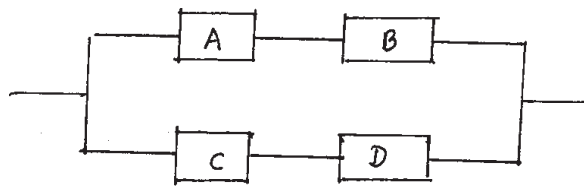

Fig. No. 2
**b)** Evaluate the reliability of the system as shown in Fig. No. 2 using Tie-set & cut set method.